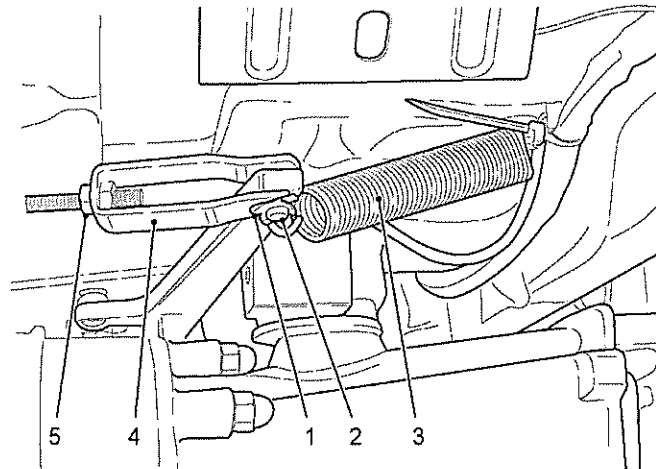

Fig 18 Handbrake angle lever arrangement
- 43.1. Remove clip (Fig 18 (1)) and remove pin (2) from angle lever.
46 Remove clip (Fig 18 (1)) and remove pin (2) from angle lever.
- 66 Fit return spring at angle lever (see Fig 18 (3)).